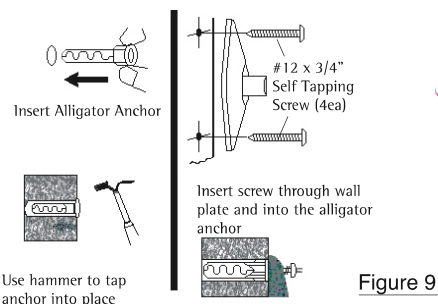

Figure 9
- Drill holes in the solid concrete or hollow block using a 5/16" masonry bit. Once the holes are drilled, insert the #12-14 Alligator anchors (Figure 9) into the holes, making sure the anchor is flush with the surface of the wall (Figure 9).
- With the wall anchors in place, mount the wall plate using the #12 x 1-3/4" self tapping screws (Figure 9).